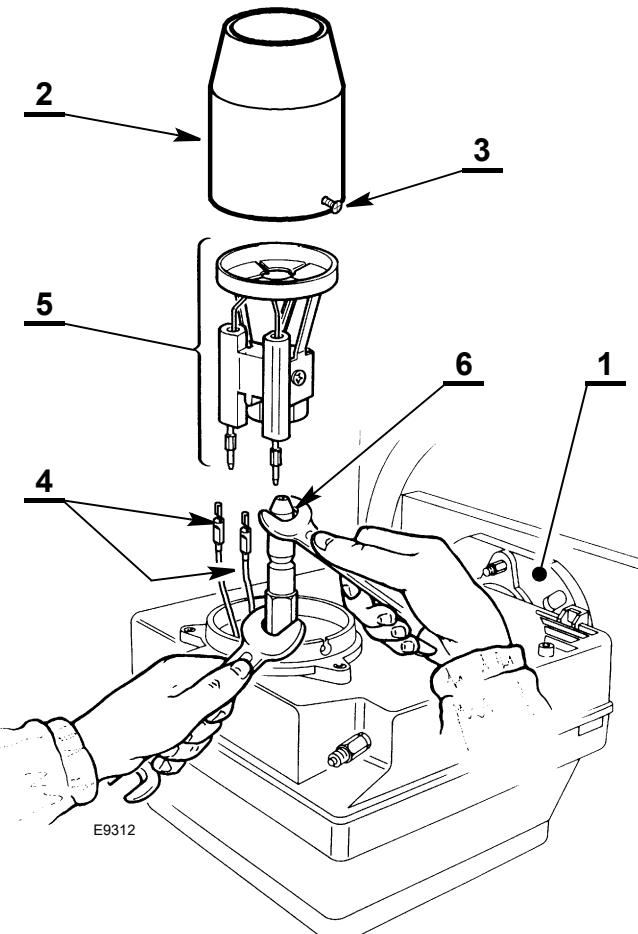

Fig. 12
- Connect the burner to flange 1)(Fig. 12), loosen the screws 3) then remove the blast tube 2).
- Replace and correctly screw in the nozzle 6), tightening it as shown in Fig. 12.